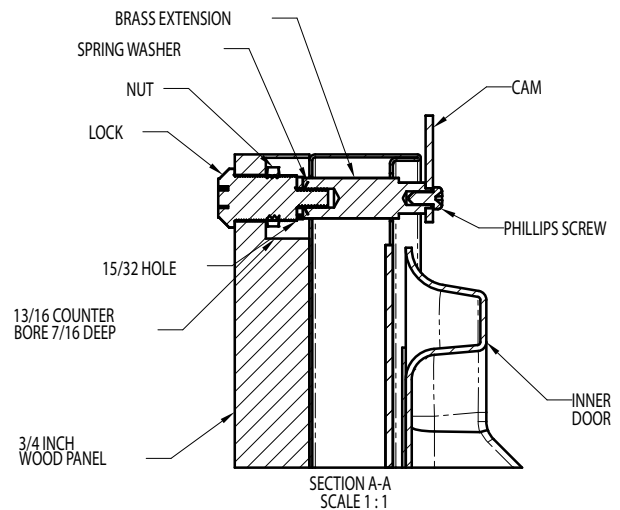

Figure 6
Locate and mark with a pencil the location of the lock hole on the overlay panel, this is the hole in the top corner of the handle side of the door. Remove the clamp and remove the overlay panel from the door. On the backside of the panel where you marked the lock location drill a 13/16" (20.5mm) diameter counterbore 7/16" (11.0mm) deep into the overlay panel. Drill a 15/32" (12.0mm) diameter hole through the overlay panel centered on the counterbore being careful not to splinter the wood on the face side of the panel. (See Figure 6).
Two (2) lock extensions are supplied with the lock. Use the longer extension for a 3/4" thick overlay panel and the shorter one for a 5/8" thick panel. Assemble the lock extension, cam stop washer, spring washer, and set screw to the lock as shown in Figure 6 and 7.